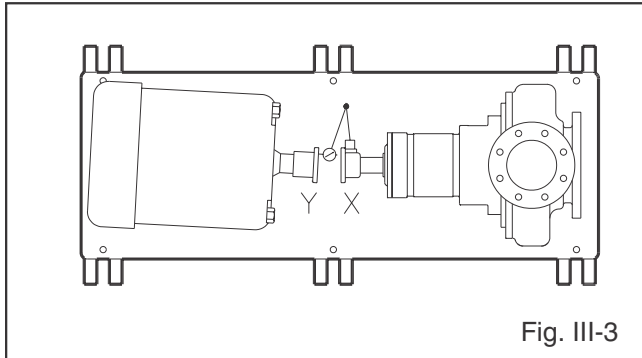

Fig. III-3
3. **Positive Reading** - The coupling halves are closer together on the right side than the left. Correct by either sliding the shaft end of the driver to the right or the other end to the left (Fig. III-3).